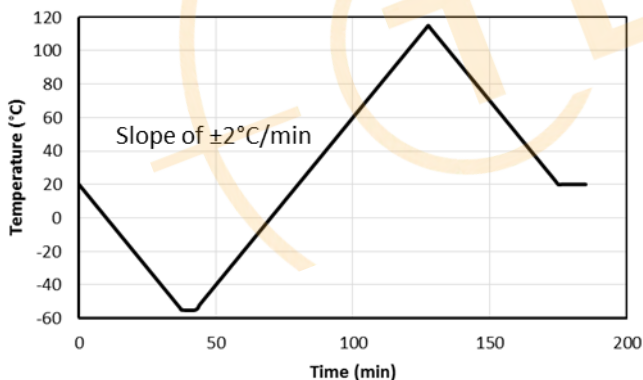

Figure 25: Recommended Temperature profile for calibration
2. Place the sensor on a rate table in a thermal chamber and implement temperature profile according to Figure 25¹